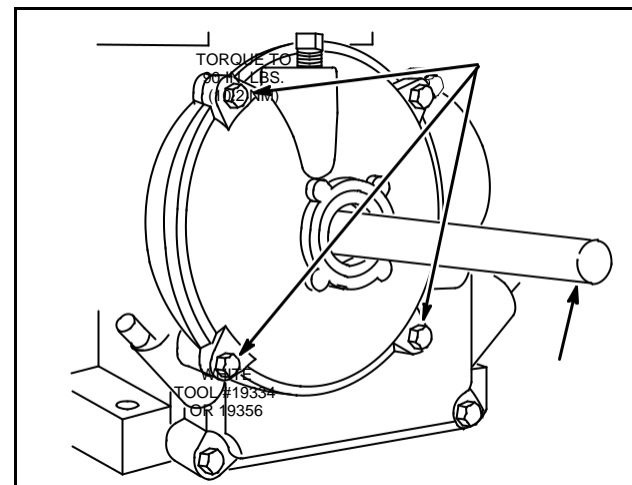

Fig. 135 - INSTALLING GEAR CASE COVER
11. Torque four screws to 90 in. lbs. (10.2 Nm), Fig. 135.